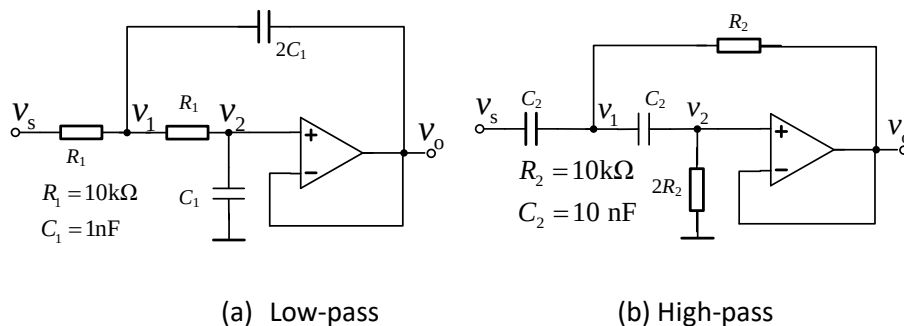

Figure 1: Active RC Filters
- Build the circuit shown in Fig.1 (a) and (b), respectively. Use **Function Waveform Generator** as voltage input v_s and use **Digital Oscilloscope** to observe and measure the value of output v_o and phase difference between output and input at the selected frequencies.
- Cascade the circuits shown in Fig.1(a) and (b) to form a band-pass filter. Measure its magnitude response and phase response.
- Use phasor analysis method to determine the transfer function — voltage gain for the circuits shown in Fig.1(a) and (b), respectively. And then determine the transfer function — voltage gain for the band-pass filter you build. Calculate the amplitude of these transfer functions and their phase differences between the input and output voltages.
In this laboratory, you are required to use **Digital Multi-meter** to measure voltage and to use **Oscilloscope** to measure phase. Build the circuit shown in Fig.1 on a bread board. Use **Function Generator** as input. Set v_s rms to 0 dB and set the frequency given in Table 1, 2, and 3. Observe waveforms on the oscilloscope and measure the phase difference. Use Digital Multi-meter to measure the output voltage. The procedure includes the following steps:
- (ii) Build the circuit shown in Fig.1(a) and then (b) on breadboard and connect the instruments correctly. **Make sure to supply power to op amp.**
- (iv) Determine -3dB frequency f_{LP-3dB} and phase deference ϕ_{LP-3dB} in Fig.1(a);
Determine -3dB frequency f_{HP-3dB} and phase deference ϕ_{HP-3dB} in Fig.1(b);
(a) Make use of Fig.1 to design a band-pass filter. Select proper values of resistors and capacitors such that -3dB frequencies are at 3kHz and 30kHz.